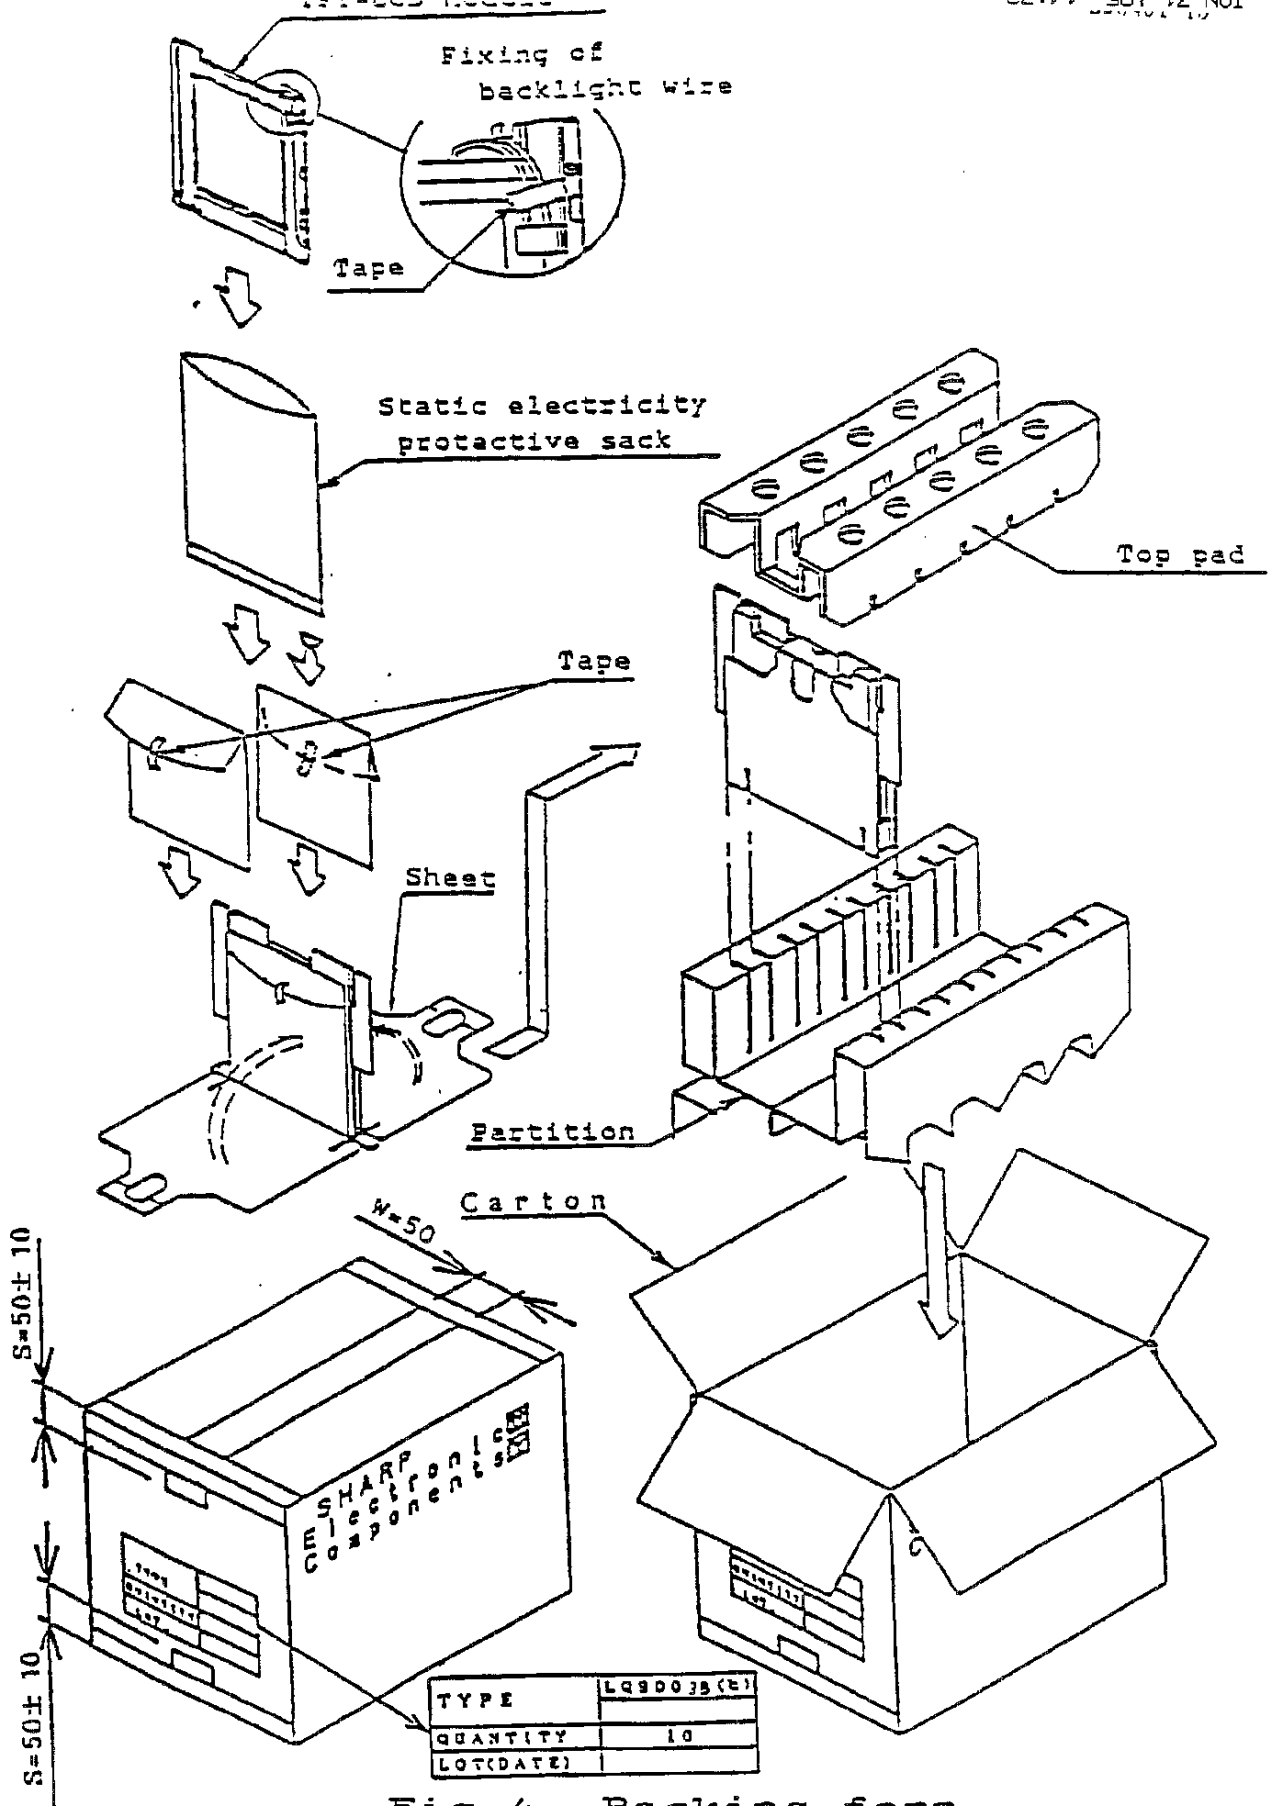

Fig. 4 Packing form
- c) Carton size : 413(W)x288(H)x351(D) mm
- Packing form is show in Fig.4.